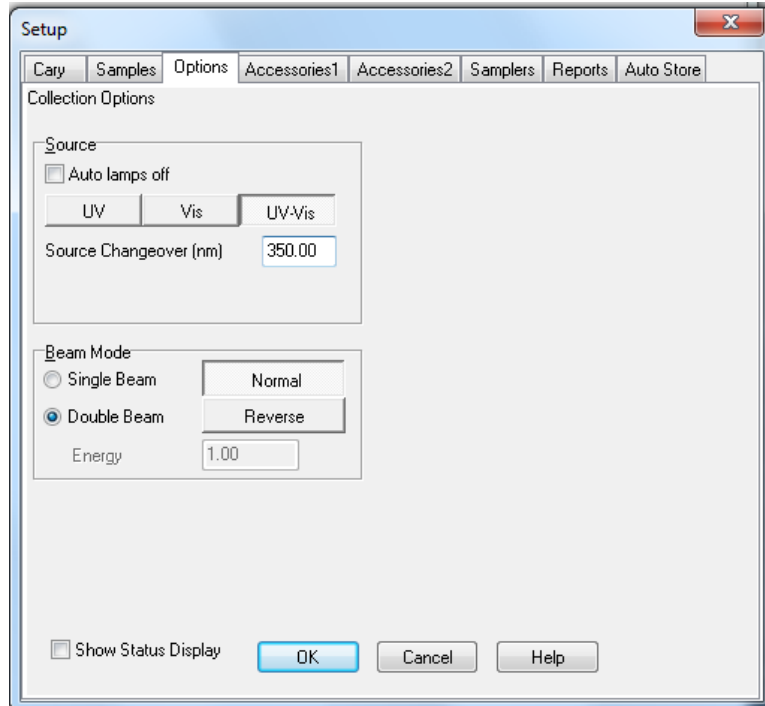

Figure 3. Setup Screen.
3. Confirm that the instrument Beam Mode is correctly configured. This shouldn't change, but to confirm, in *Varian > Cary WinUV* start the **Advanced Read** application. Click the **Setup** button and select the **Options** tab. Confirm in the *Beam Mode* area that *Double Beam* is selected and *Normal* is also selected. (**Figure 3**)